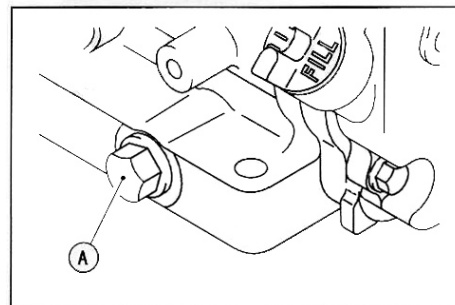

Figure 17
- Detach the drain plug (A, figure 17) at the bottom of Engine